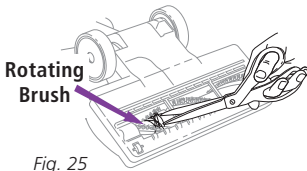

Fig. 25
- 2 Inspect the opening underneath and the rotating brush. If a build-up of debris is present, remove it. Carefully cut anything wound around the rotating brush with scissors. Avoid damaging or cutting the bristles. (Fig. 25)